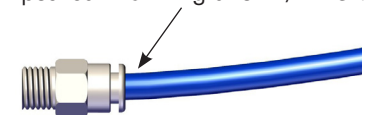

Figure B-1
Step 7 Connect the disconnect fitting by pulling back the female disconnect fitting (**B**) locking sleeve back and hold **Fig. B-1**. Now push the male disconnect fitting (**A**) into (**B**) female fitting and release the locking sleeve **Fig. B-2**.